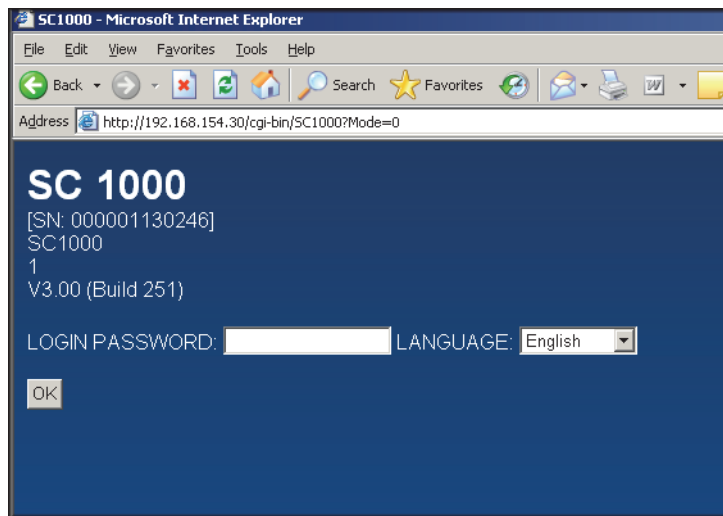

Figure 6 Login page for sc1000 controller
6. Open a web browser on the computer. Enter the IP address of the sc1000 controller in the address bar (refer to point 3.). The login page for the sc1000 controller is displayed (Figure 6).
7. Enter the browser password (refer to Figure 6 and Section 3.4.1, page 13).